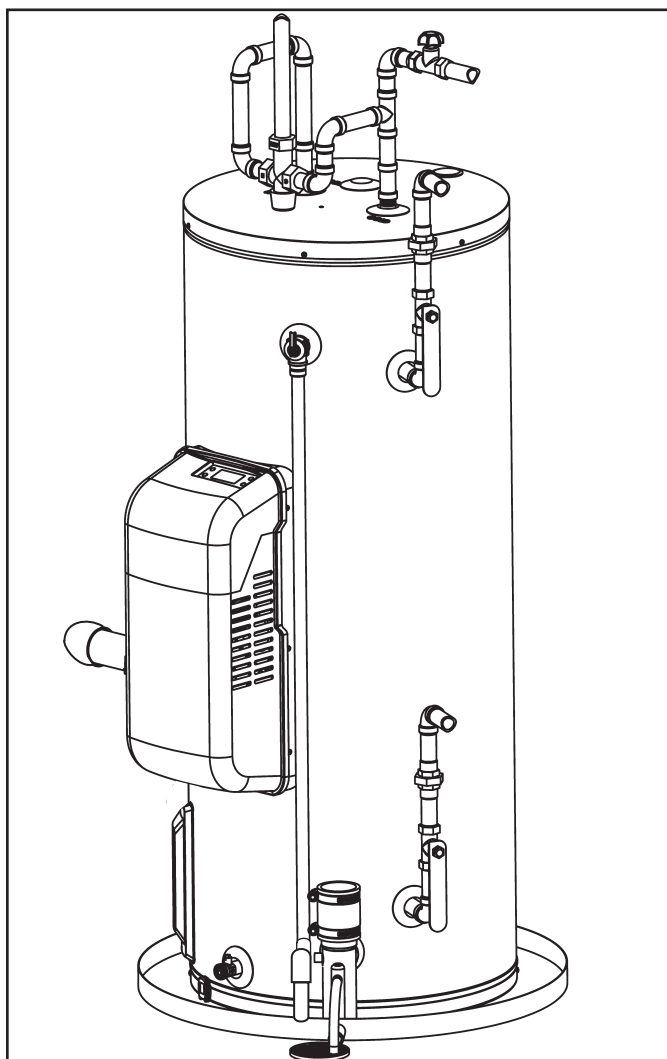

Figure 38. Water Heater with Side Taps for Space Heating
Your water heater is equipped with Combo Heating capabilities and are shipped with the two side plumbing taps **PLUGGED** (items 24 and item 29 in *Figure 2* (page 11)). See also *Figure 38* (page 36). If the heater is to be operated using the side taps for combo heating, these plugs must be removed.